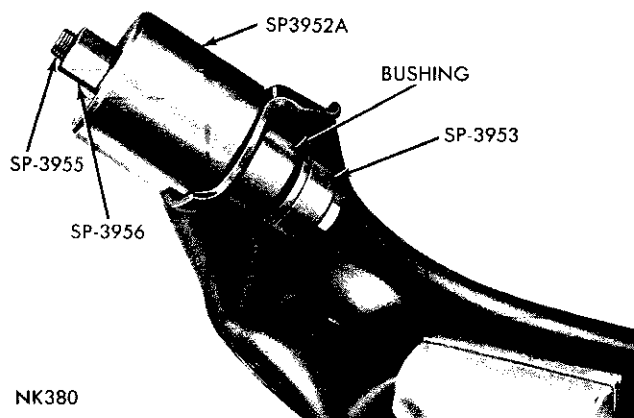

Fig. 17—Removing Upper Control Arm Bushing (Chrysler)
(1) Remove the ball joint using Tool C-3560 for Chrysler Models or Tool C-3561 for Imperial Models. The ball joint balloon type seal will come off as the ball joint is removed.
(2) Assemble Tool C-3962, using adapter SP-3953 (Chrysler Models) Tool C-3710, using adapter SP-3088 (Imperial Models) over the bushing and press the bushing out of the arm (from inside out) (Fig. 17). **Be**